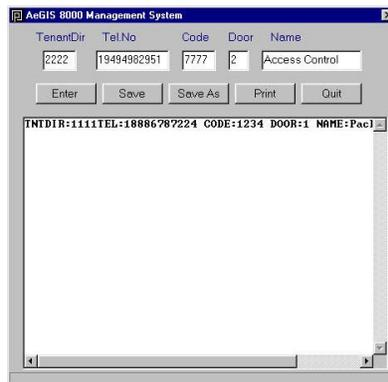

Figure 5
- Step 1** Click on File menu and click on New Tenant Database, you will see figure 5.
- Step 6** Click on enter and the tenant data will show on the box as shown on figure 5.